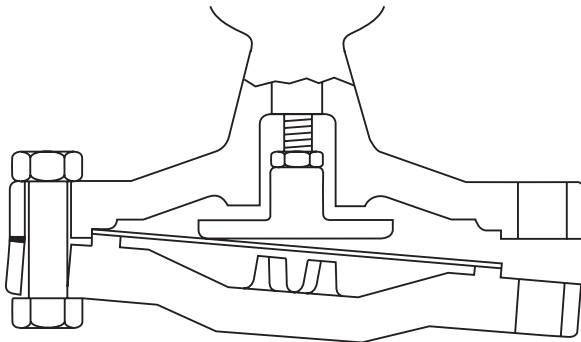

Fig. 9
3. Undo the M12 nuts and bolts (23) and drop away from the main diaphragm chamber (22) and the main diaphragm plate and pushrod assembly (25 and 26).
5. Replace main diaphragm plate and pushrod assembly (25 and 26) and loosely refit the lower diaphragm chamber (22) on the two bolts either side of the union connection, see Figure 9, so that the spigot is located into the recess. Also ensure that the connecting stainless steel pipework is located into its fitting.
6. Bring the two main diaphragms together and slide into position, first easing the diaphragm plate upwards to clear, see Figure 9.
7. With the main diaphragms in position, push the lower chamber home to locate the recess and refit the M12 nuts and bolts (23) tighten to a torque of 75 N m.